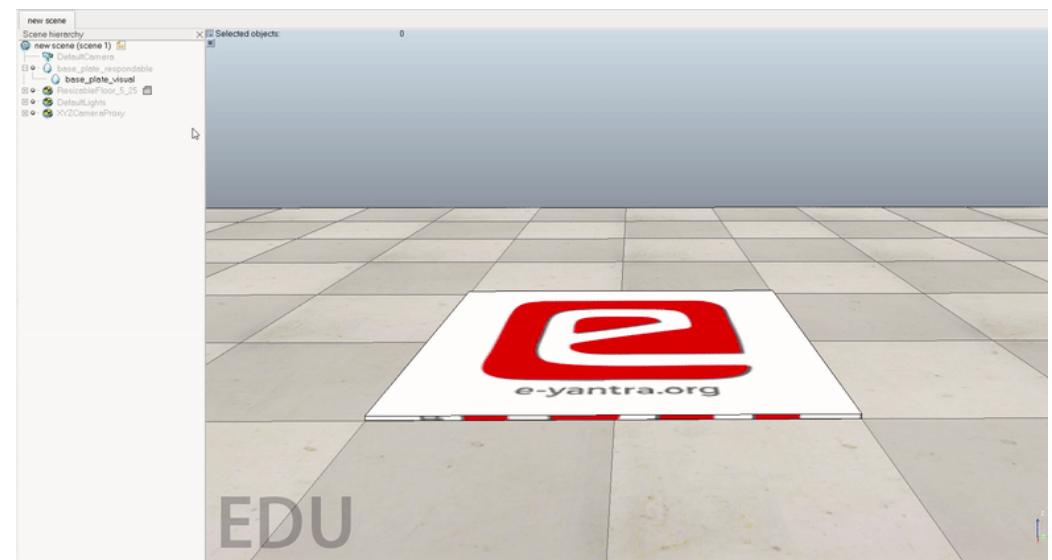

Figure 2: Enable local respondable mask for an object in CoppeliaSim scene.
- Refer the gif in Figure 2 to learn how to turn on the local respondable mask for an object in CoppeliaSim scene.
- Refer Figure 2 of Task 1C - Design Ball Balance Platform to understand better.